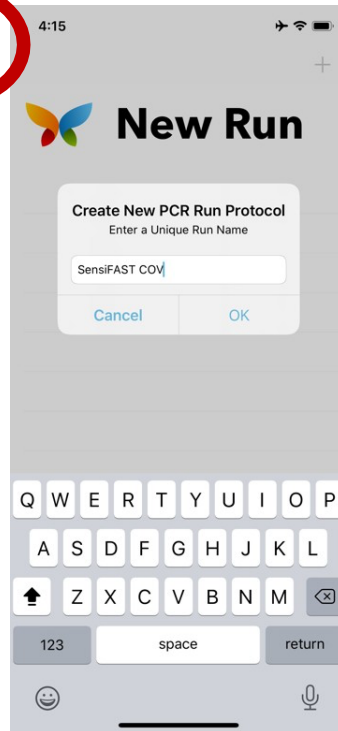

Figure 9: Enter Protocol Name.
- 1.2.5. Click the (+) sign at the top right-hand side of the New Run window and enter the protocol name in the pop-up window. Press OK. (**Figure 9**)